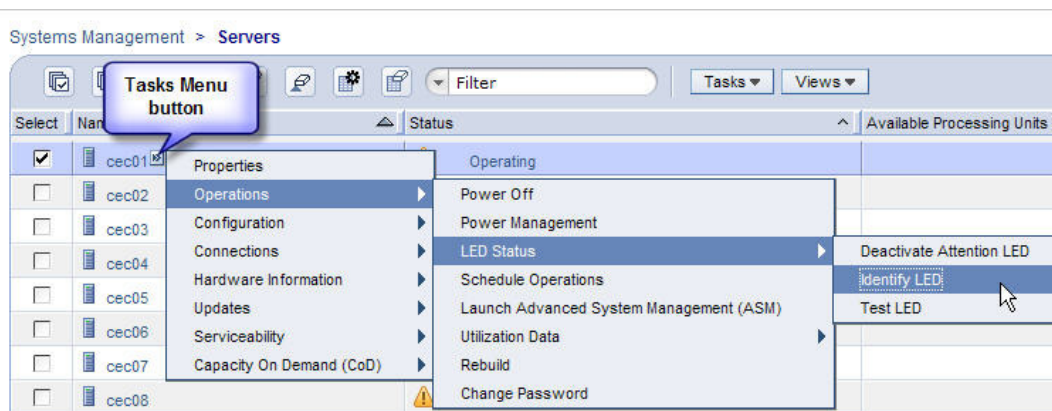

Figure 2 Identify LED Selection
STEP 4 Click the Tasks Menu button (right-arrow) and *select* **Operations -> LED Status -> Identify LED**. See Figure 2.